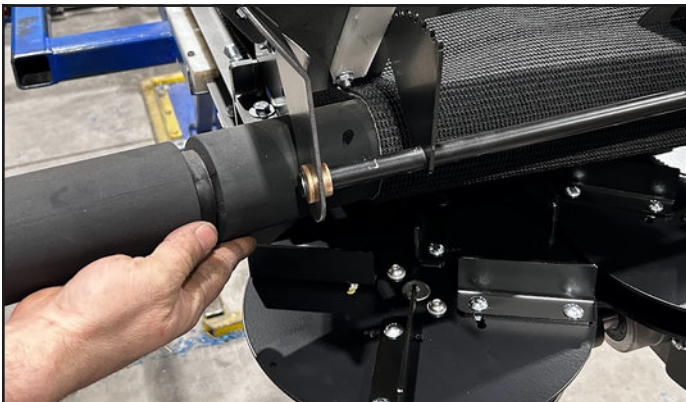

Figure 13.6.1-1
- Install the front roller (Fig 13.6.1-1)